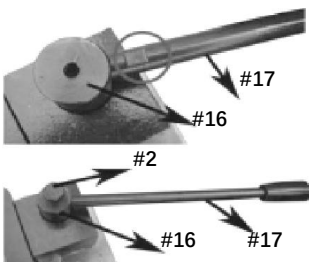

Figure 3
4.Insert crank rod (#17) with grooved surface facing up, and insert it into the hole of eccentric shaft (#16), insert screw (#2) into groove and tighten (refer to figure 3). The universal bender is now ready to use .